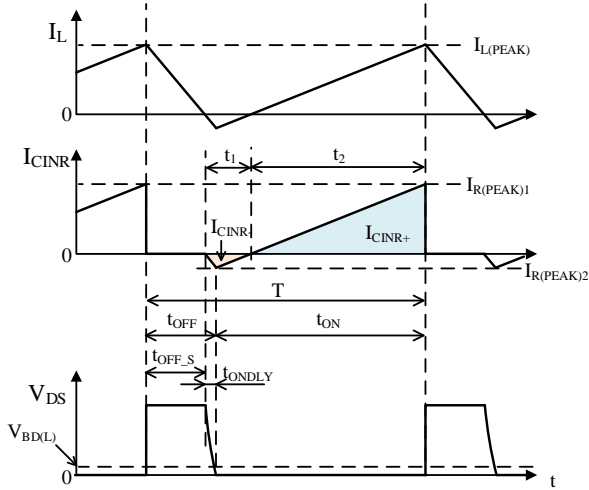

Figure 10-2. C_{IN} Ripple Current (worst condition)
The ripple current of the input capacitor, C_{IN}, is calculated assuming the worst condition (all the power is supplied to the LED driver circuit from C_{IN} for a period of time). In delay time, the negative current flows through C_{IN} as shown in Figure 10-2.
The current flowing in C_{IN} during the period, t₁, in Figure 10-2 has a triangular waveform whose peak value is I_{R(PEAK)2}. The effective value of this current, I_{CINR-}, is calculated by Equation (10).
I_{CIN(RIPPLE)} discharging from C_{IN} during the period, t₂, in Figure 10-2 has a triangular waveform whose peak value is I_{R(PEAK)1}. The effective value of this current, I_{CINR+}, is calculated by Equation (11).